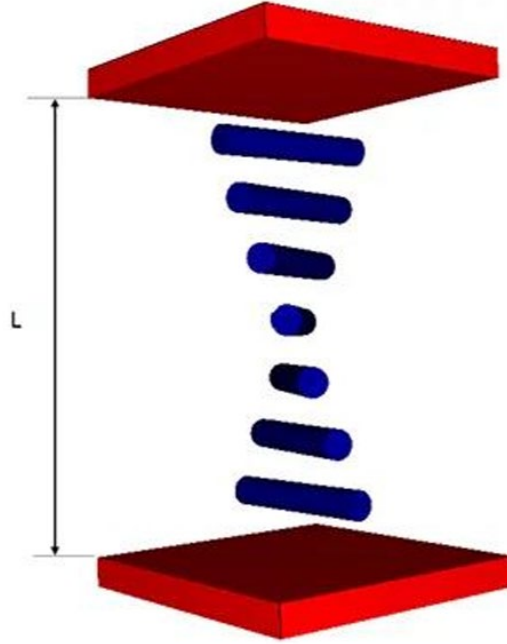

Figure 1. Illustration of Twisted Nematic (TN) cell
Twisted Nematic (TN) Liquid Crystal structures can be used to provide achromatic polarization rotation in thin layers and play important roles in many optical applications such as display panels, modulators, and switches. The optical properties of a twisted TN cell between two polarizers have been theoretically analyzed and experimentally measured ¹. This article studies the well-known example of transmission through a 90-degree TN cell as a function of the cell thickness, as shown in Figure 1.